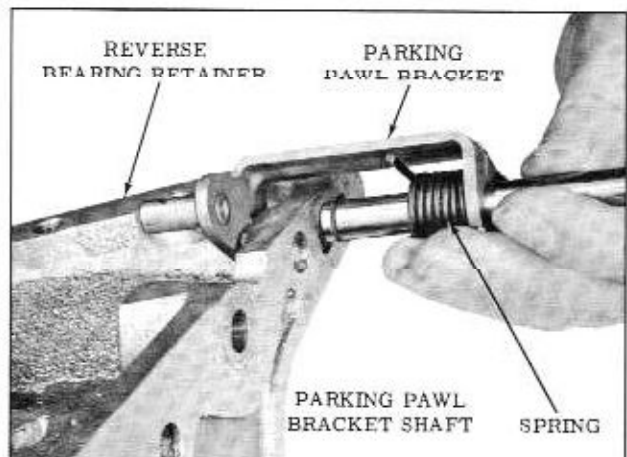

Fig. 3-73 Installing Parking Pawl Bracket
5. Install the parking pawl bracket, shaft and spring into bearing retainer and install two "E" rings on shaft. (Fig. 3-73)